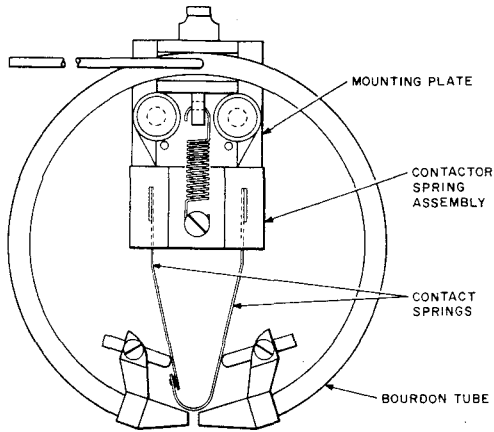

Fig. 1 — Contactor Mechanism
3.01 In the event that the mechanism of these types of contactors becomes inoperative, it can be replaced with a new unit of the proper type (see 2.01) which is illustrated in Fig. 1.